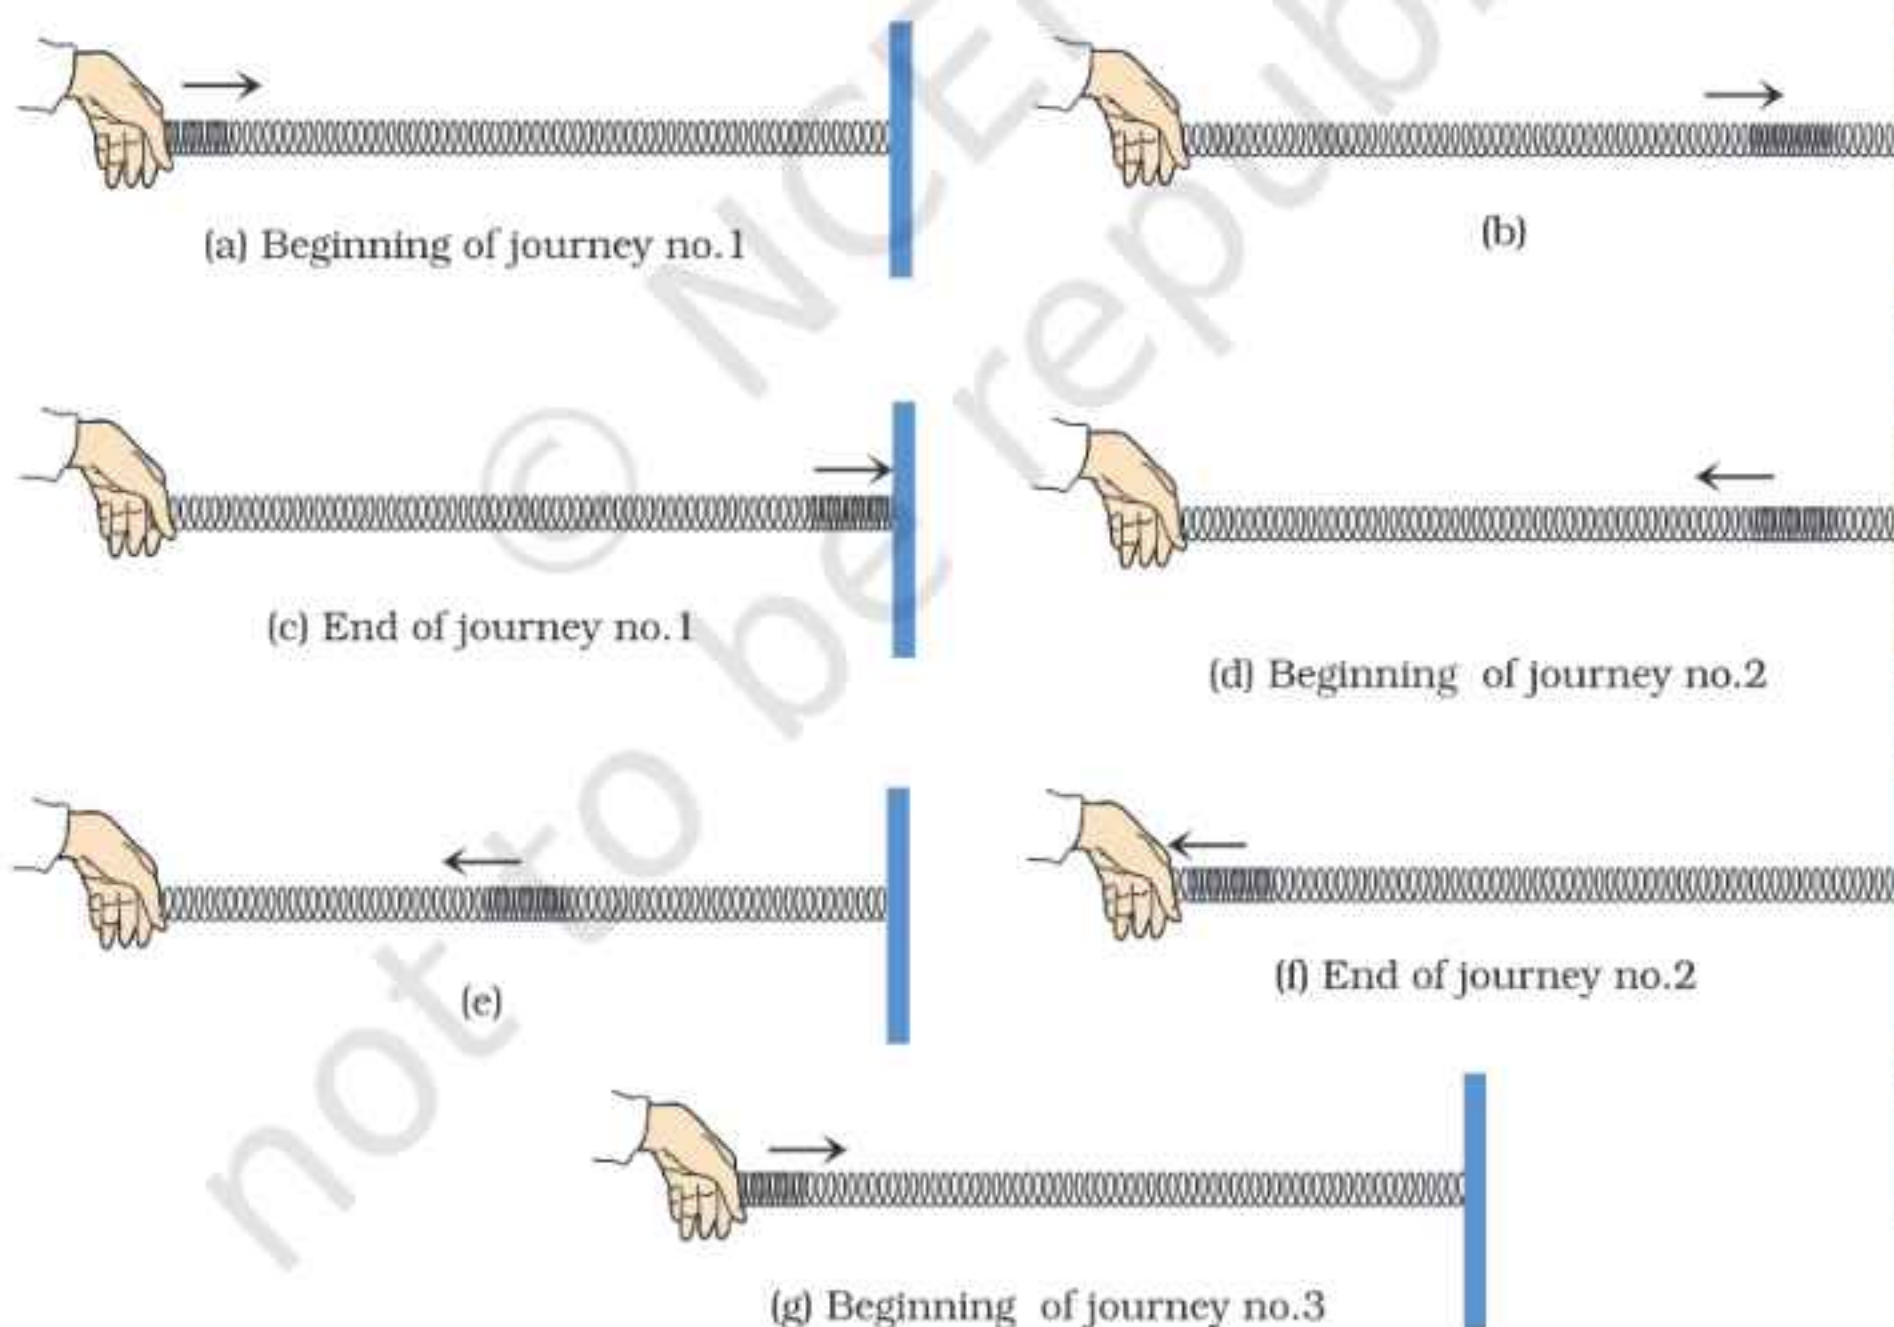

Fig. 43.4 (a-g) : A longitudinal pulse moves back and forth along a slinky fixed at both ends before it dies out
8. Holding one end of the stretched slinky gather a few slinky coils towards you and quickly release them. Ask one of your friends to be ready to switch on the stop watch simultaneously as you release the coils. Measure the time taken by the pulse to make n number of journeys along the entire slinky between its two ends as shown in Fig. 43.4(a–g). This could be possible if the created pulse moves back and forth in the slinky a few times before it dies out. The starting and closing of the stop watch or clock must be simultaneous with the creation and its arrival at the end up to which the measurements are to be taken (after n number of journeys). Care should also be taken in counting the number of times the pulse travels through the entire length l_1 of the stretched slinky.